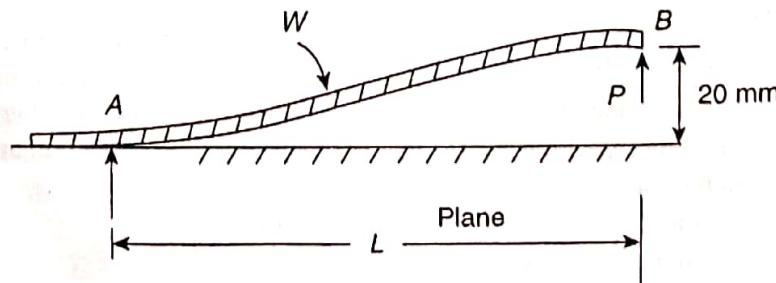

Figure 11.51
- A long flat strip of 40 mm wide and 2.5 mm thick is lying on a flat horizontal plane. One end of the strip is lifted by 20 mm from the plane by applying a vertical force at the end. The strip is so long that at the other end remains undisturbed. Calculate: (a) the force required to lift the end and (b) maximum stress in the strip (Fig. 11.51). Weight density of steel = 76.44×10^{-6} N/mm³.